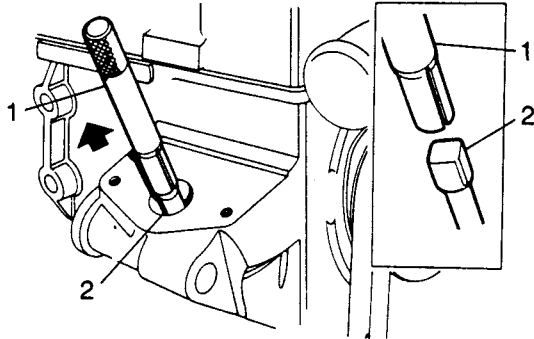

Fig B4.31
- (2) Refer to Fig B4.31. Position tool 18G1147 (1) with the slots diagonally across the square end of the oil pump drive shaft (2).
- (3) Press down on the tool and then withdraw the drive shaft upwards.